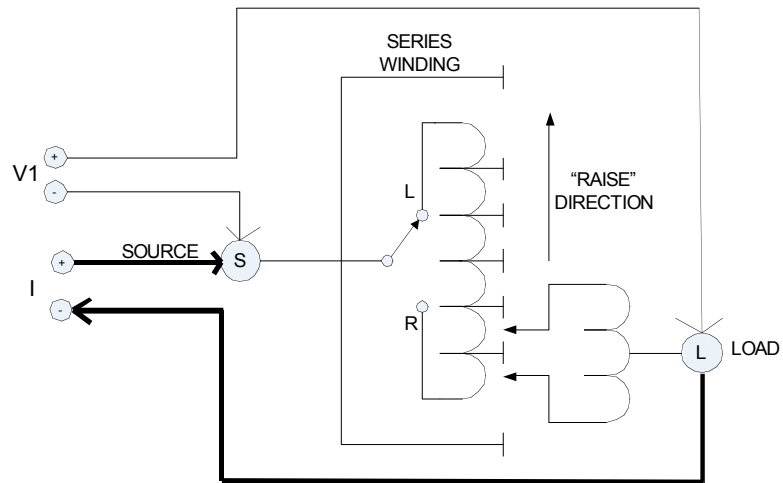

Figure 9: Connection to a Regulator
3. Connect "V1" voltage leads to test specimen winding. See Figure 9.
4. Connect current leads (I) to test specimen winding. Do not clip voltage leads on to the current leads, since this will add contact resistance to the measurement. **Voltage leads should always be placed inside (between) the transformer and the current leads.** See Figure 9.